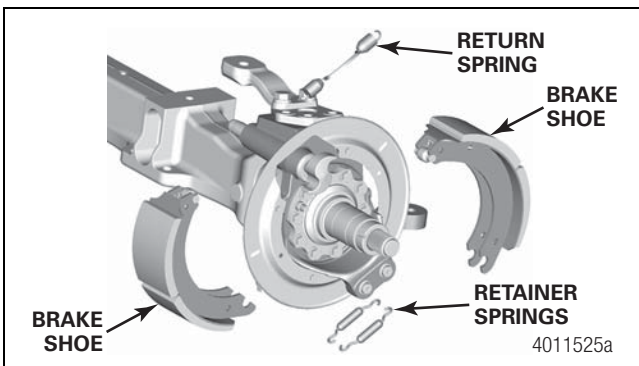

Figure 4.18
1. Remove the return springs and retainer springs from the brake shoes. Remove the brake shoes. Figure 4.18.